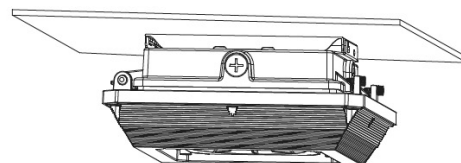

Figure 3-4
4. Confirm the installation is secure before turning power on. Figure 3-4